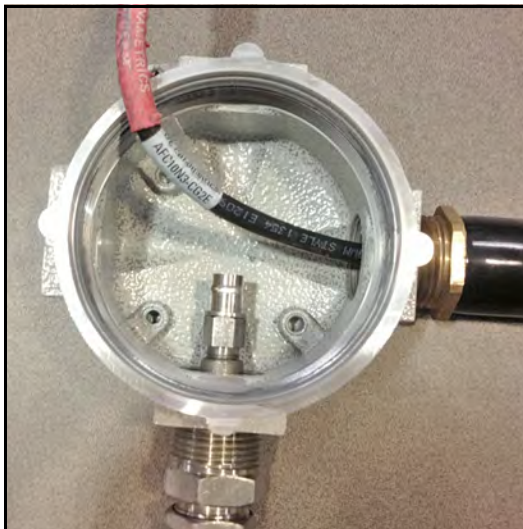

Figure 18: Assembled Transducer and Cable Gland
5. Verify that, with the transducer and the cable gland assembled, the junction box looks like *Figure 18* below: